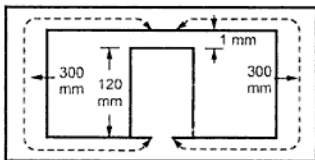

Fig. 3.81
►► **Example 3.29 :** A magnetic circuit is made of mild steel arranged as shown in the Fig. 3.81.
and fringing. The mean lengths of various paths are shown in the Fig. 3.81. The B-H curve for mild steel is as follows :